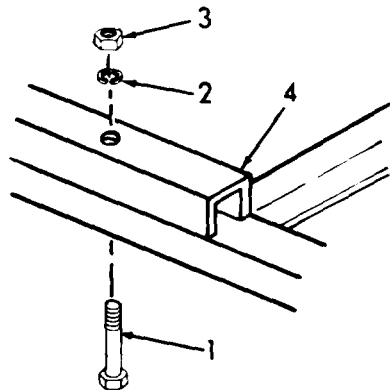

Figure 4-3. Channel Removal.
(1) Remove fuel lines and filter as per paragraph 4-2.2.
(2) Remove centrifugal pump as per paragraph 4-4.
- (3) Remove engine as per paragraph 4-2.4.
- (4) Remove fuel tank as per paragraph 4-2.1.
- (5) Refer to figure 4-3. Remove capscrews (1), lock washers (2), and nut (3).
- (6) Remove channels (4).
(1) Refer to figure 4-3. Repeat the removal procedures in reverse sequence.